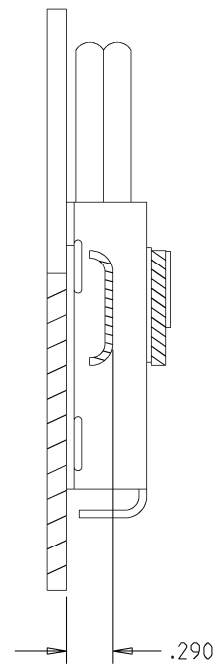

Figure 1. Base Plate to Handle Clearance Measurement Location
1	<p>PAGE 4 FIGURE 1 .290 WAS .170</p> <p>PAGE 4 SECTION 2.d. .290 WAS 0.170 +/- .020</p> <p>PAGE 4 SECTION 2.e. .290 WAS 0.170 +/- .020</p> <p>PAGE 7 SECTION 3.k. ADDED: HANDLES THAT DO NOT MEET THE 1.5 LBS REQUIREMENT MUST BE RETURNED TO THE MANUFACTURER FOR REWORK.</p>
- c. Measure the clearance between the handle and the base attachment plate of the assembly at the edge of the base plate as shown in Figure 1.